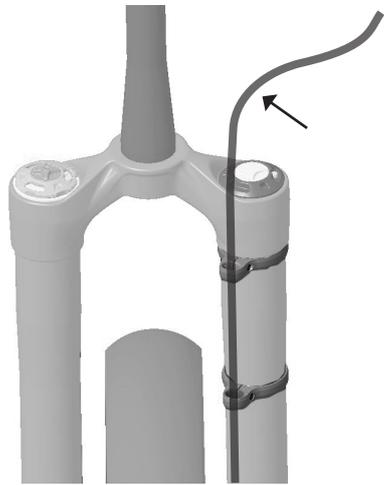
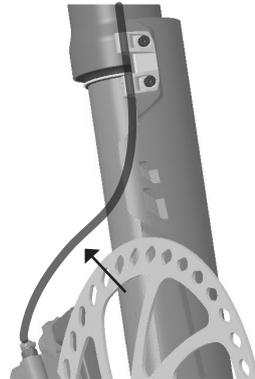

Figure 8: Sufficient hose length above upper brake hose guide
Figure 9: Brake hose arc and clearance over rotor
5. Verify the front brake hose length is sufficient above the upper brake hose guide to the brake lever (Figure 8). Verify there is a smooth arc in the brake hose between the brake hose clamp to the brake caliper (Figure 9). All sections of brake hose must have an unrestricted path during the compression of the fork.